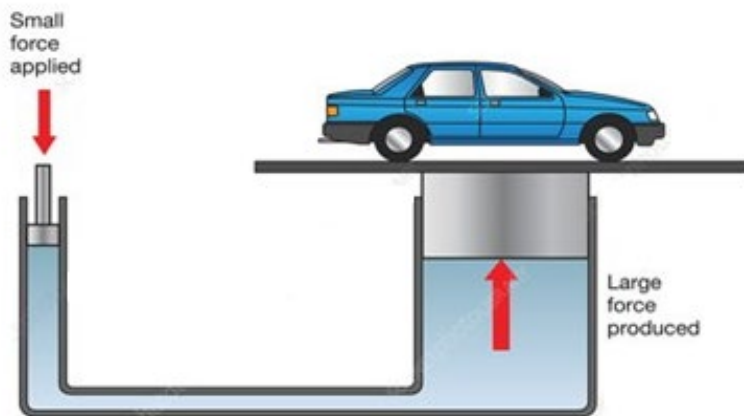

Figure 2: Simple hydraulic lift
2. The construction is such that a narrow cylinder (in this case A – Figure 2) is connected to a wider cylinder (in this case B – Figure 2). They are fitted with airtight pistons on either end. The inside of the cylinders is filled with fluid that cannot be compressed.
3. Pressure applied at piston A (Figure 2) is transmitted equally to piston B without diminishing, on the use of the fluid that cannot be compressed. Piston B effectively serves as a platform to lift heavy objects like big machines or vehicles.